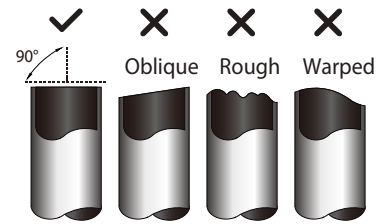

Fig. 14 — Pipe Cutting
- a. Cut the pipe, with a pipe cutter, at 90 degrees (see Fig. 14).